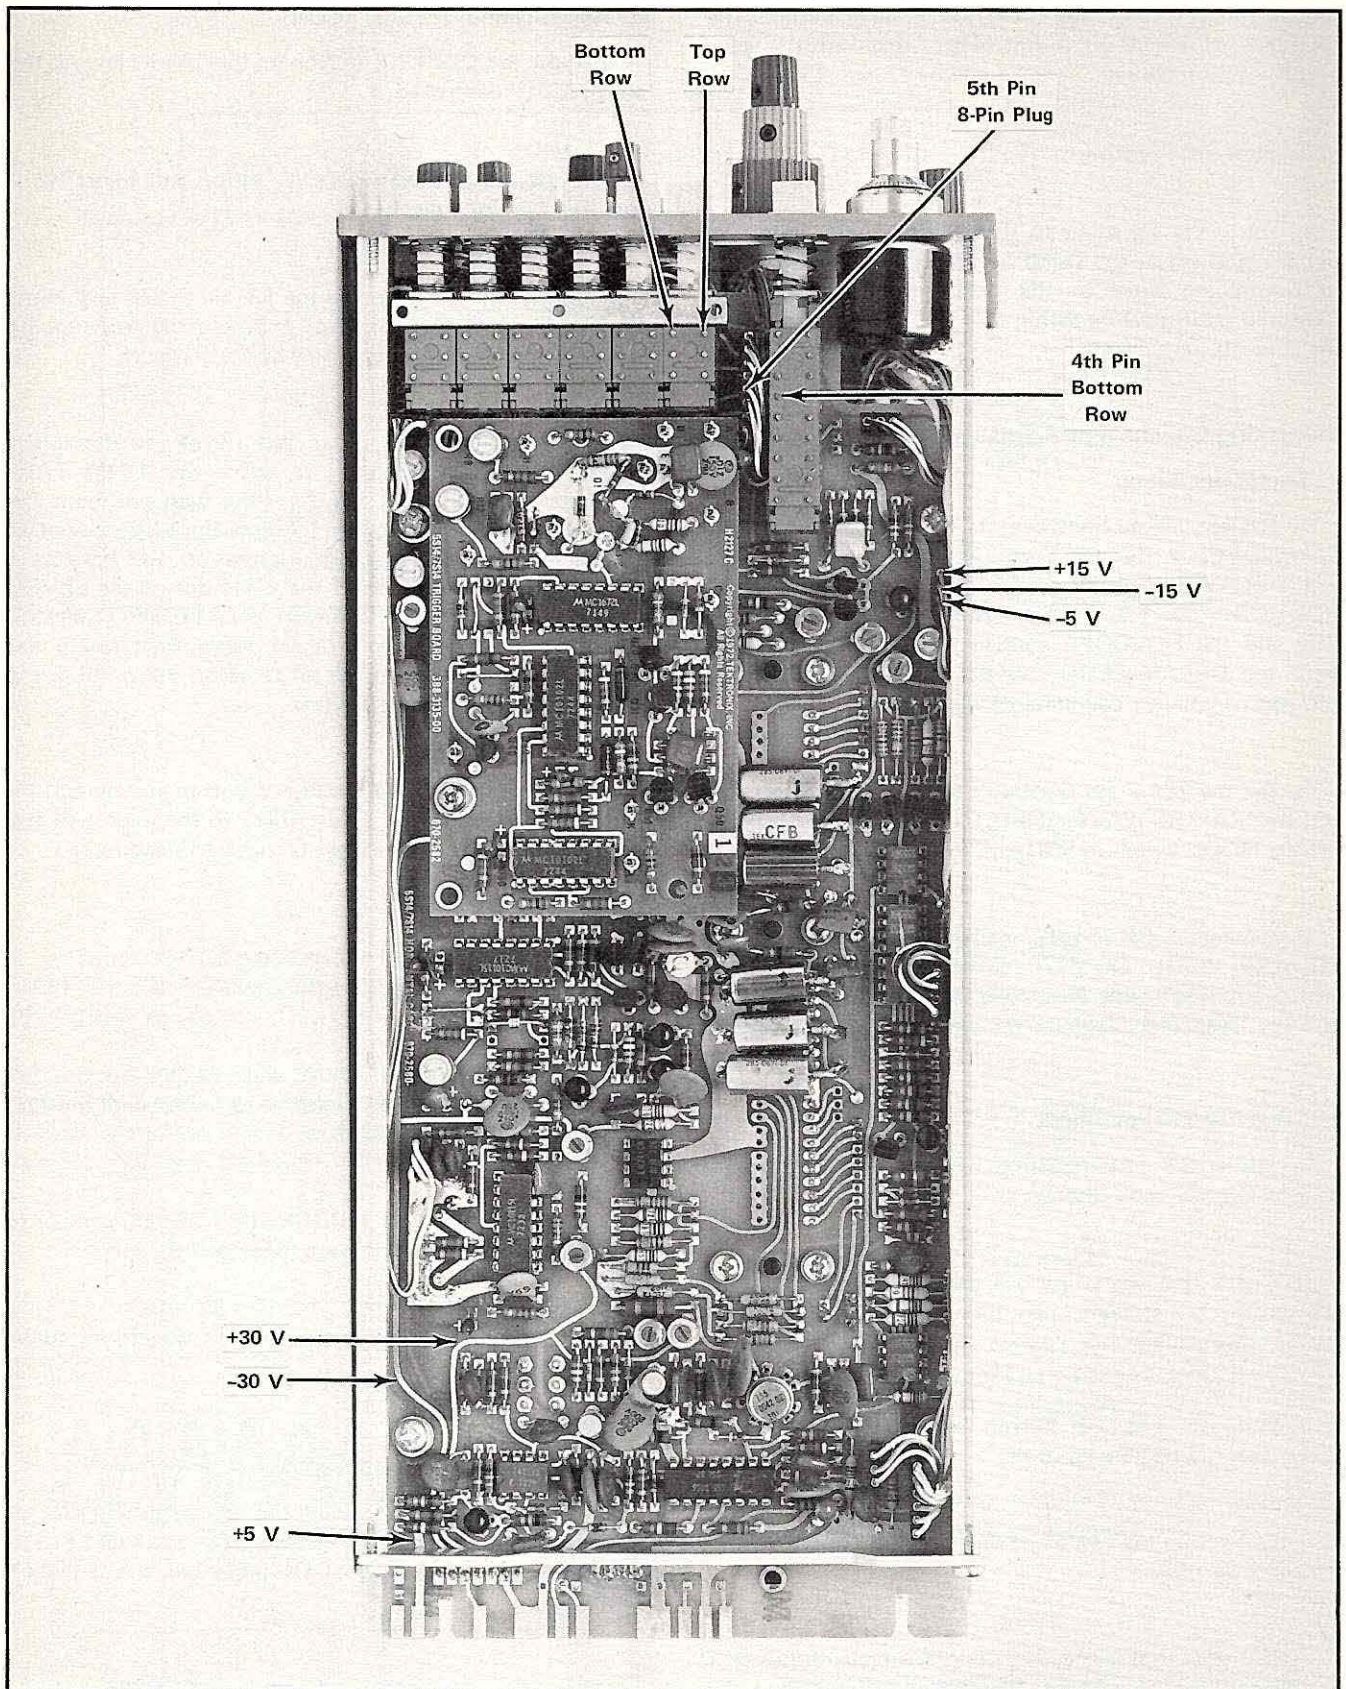
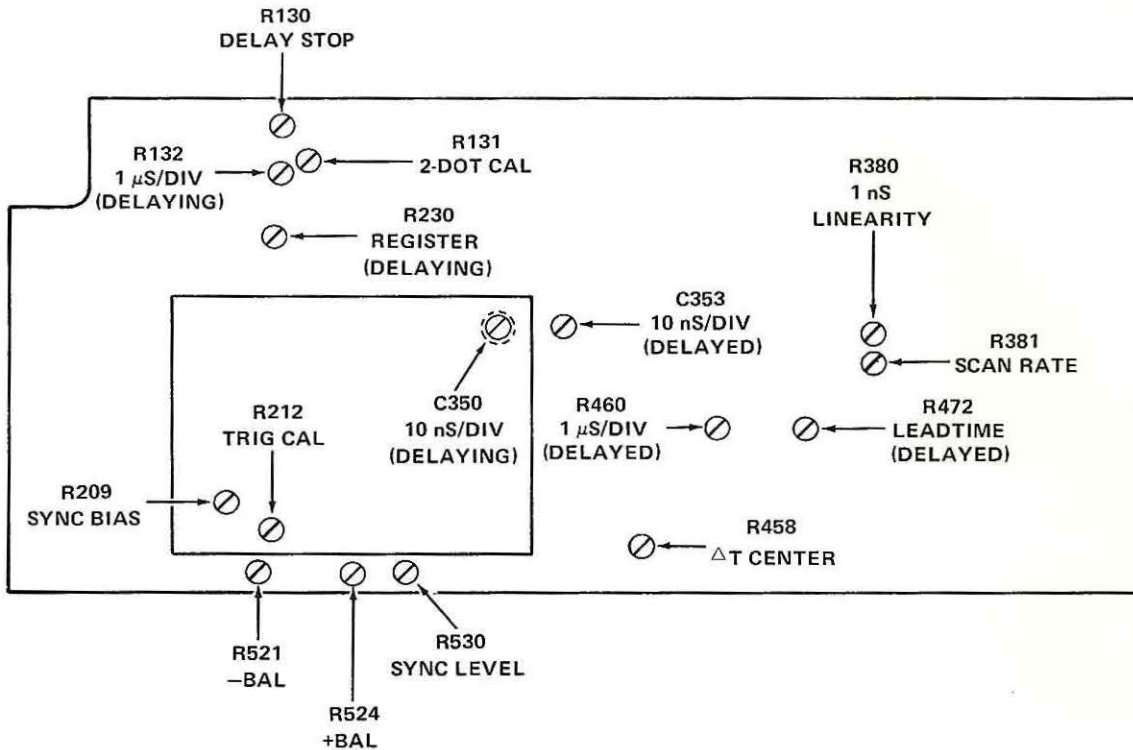
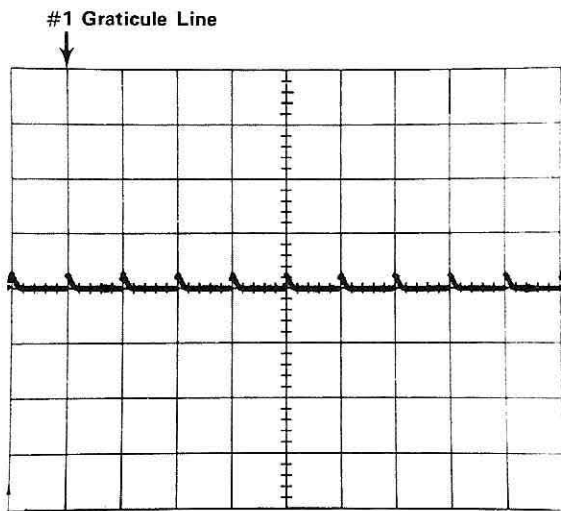

Fig. 7-1. HORIZONTAL BOARD Test Points.
Fig. 7-2. Triggers and Timing Adjustment Locations.
Fig. 7-4. 1 μ s/DIV.
The power supply voltages in the 5S14N should be checked before any internal adjustments are made. However, do not check the supply voltages unless you expect to be making internal adjustments. Power supply checks are not to be considered performance checks. The location of the test points are shown on Fig. 7-1. Measure the supply voltages with the 5A13N and a 1X probe or some accurate DC Voltmeter.
The +30 V, -30 V, and +5 V supplies from the mainframe should be within $\pm 3\%$ of their nominal values when measured at the points of the 5S14N as indicated on Fig. 7-1. If the supplies are not within $\pm 3\%$, mainframe repair or adjustment is needed.
b. Touch the 1X probe to the +30 V test point shown on Fig. 7-1 and adjust the COMPARISON VOLTAGE control until the trace is returned to the graticule horizontal centerline. The measured value must be within $\pm 3\%$ of 30 V (2.91 to 3.09 on the control). Make note of the actual value for use in part d.
d. Touch the 1X probe to the +15 V test point shown on Fig. 7-1 and adjust the COMPARISON VOLTAGE control to return the trace to the horizontal centerline. The measured value must be within $\pm 1\%$ of one-half the value of the +30 volt supply.
f. Touch the 1X probe to the -30 V test point shown on Fig. 7-1 and adjust the COMPARISON VOLTAGE control to return the trace to the horizontal centerline. The measured value must be within $\pm 3\%$ of -30 V (2.91 to 3.09 on the control). Make note of the actual value for use in parts h and j.
h. Touch the 1X probe to the -15 V test point shown on Fig. 7-1 (pin 4-2) and adjust the COMPARISON VOLTAGE control to return the trace to the horizontal centerline. The measured value must be within $\pm 1\%$ of one-half the value of the -30 volt supply.
j. Touch the 1X probe to the -5 V test point shown on Fig. 7-1 (pin 4-3) and adjust the COMPARISON VOLTAGE
l. Touch the 1X probe to the +5 V test point shown on Fig. 7-1 and adjust the COMPARISON VOLTAGE control to return the trace to the horizontal centerline. The measured value must be within $\pm 3\%$ of 5 V (4.85 to 5.15 on the control).
b. Push the 5S14N HF SYNC button and adjust R212 (see Fig. 7-2) for a display.
d. Touch the 1X probe to pin 1-5 of the Horizontal Board. Pin 1-5 is located just above the AUTO TRIG pushbutton switch. (See Fig. 7-1 - the fifth pin from the front panel is the correct pin.) Adjust the LEVEL control so the free running trace is located on the horizontal centerline of the graticule. If the white dot on the LEVEL control is not located between the 11 and 1 o'clock positions, loosen the control set screw then rotate the control knob and tighten the set screw so the white dot is located at the 12 o'clock position.
c. Touch the 1X probe to the base of Q202 and adjust R530 (see Fig. 7-2) to set the DC level of Q202 to match the DC level of Q201.
e. Touch the 1X probe to the base of Q202 and adjust R524 (see Fig. 7-2) so that the DC level is +60 mV above the DC level of Q201.
h. Touch the 1X probe to the base of Q212 and adjust R521 (see Fig. 7-2) so that the DC level is -60 mV below the DC level of Q201.
a. Set the TRIGGERING LEVEL control completely counterclockwise. Preset R209 (see Fig. 7-2) completely counterclockwise.
- c. Check that there is one marker per division and that the distance between the peak of each marker, from the first through the ninth markers, is less than 0.1 division from the major graticule line (see Fig. 7-4).
- e. Touch the tip of the 1X probe to the fourth pin back on the bottom row of pins of the SWP pushbutton (see Fig. 7-1), then adjust R131 (see Fig. 7-2) to position the trace (displayed by the 5A13N) on the horizontal centerline of the mainframe graticule.
Adjust R130 (see Fig. 7-2) so that the left-hand dot is at the zero graticule line.
- e. Check that there is one marker per division displayed (see Fig. 7-4), and that there are exactly 8 divisions between the number one and number nine markers.
- c. Adjust R132 (see Fig. 7-2) to set the 2nd (right-hand) dot on the ninth time marker in the same location as the 1st dot is located on the first time marker.
- a. Adjust R460 (see Fig. 7-2) so there is one marker per division (see Fig. 7-4).
- b. Adjust R381 (see Fig. 7-2) so that three 10 ms time markers drift across the screen to the right.